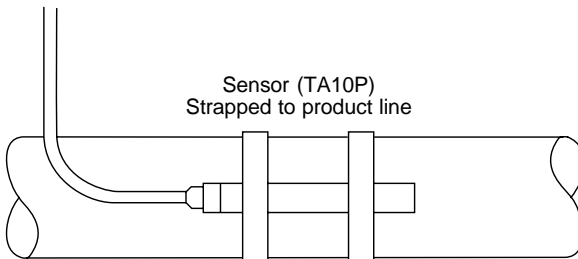

Fig. 3 Sensor strapped to product line
- 3.4** **For the TA10P version only**, the capillary tube must always be installed with a degree of 'slack' so as not to restrict the overrun movement of the actuator. The sensor should be strapped to the outside of the pipe or vessel being controlled (see Figure 3).